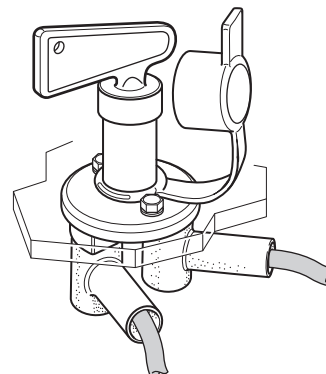

Fig. 51
- ▶ Slide protective rubber caps on to connection screws (Fig. 51.)